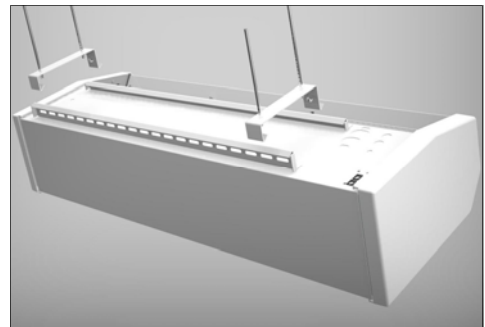

Fig 6
**Step 2** Screw and bolt threaded rods into ceiling brackets as shown in Fig 6.